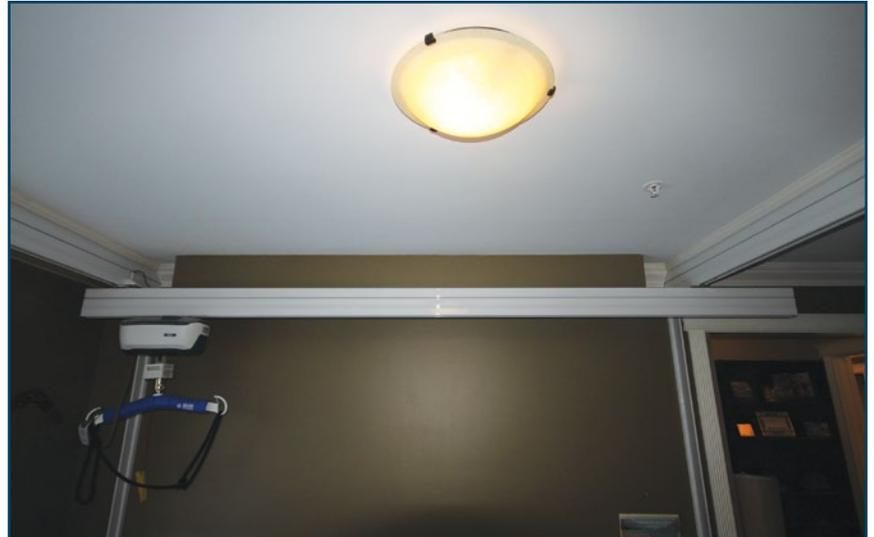

Figure 3: Stationary hoist
- Stationary hoists (see figure 3)
**Stationary hoists** are fixed to the floor or a wall (see figure 3). Although the base of the hoist is fixed, a support arm pivots to transfer the person sideways. Stationary hoists use slings and harnesses like wheeled hoists.